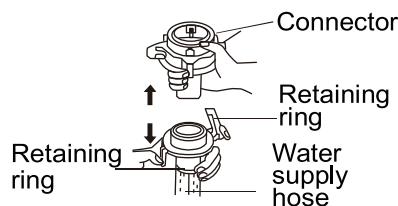

Figure 2
2. Hold the connector with one hand, press the retaining ring with the other hand and pull it down to separate the connector from the water supply hose. **(Figure 2)**